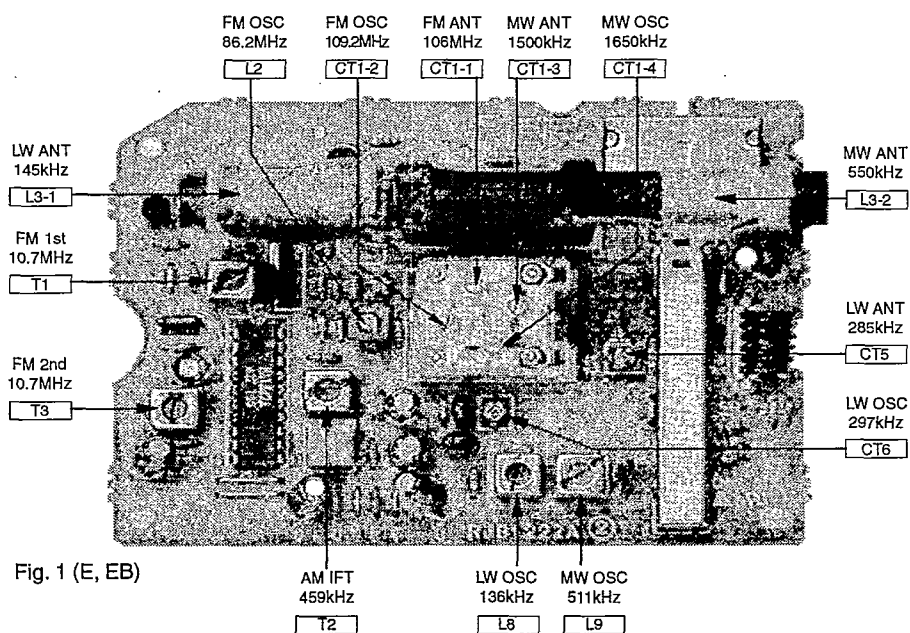

Fig. 1 (E, EB)
1. Connect the oscilloscope's CH. 1 probe across **TJ701** (RF) (+) and **TJ702** (V-Ref.) (–) on the servo P.C.B. (Refer to Fig. 1 on page 33)